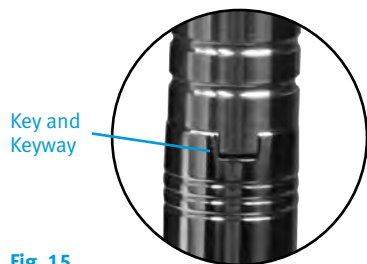

Fig. 15
**NOTE: The Guide is universal and it is critical that the nail be properly aligned with the Guide for a Left or Right implant. Line up the keys of the Guide with the keyways of the nail so that they fit snugly (Fig. 15).**